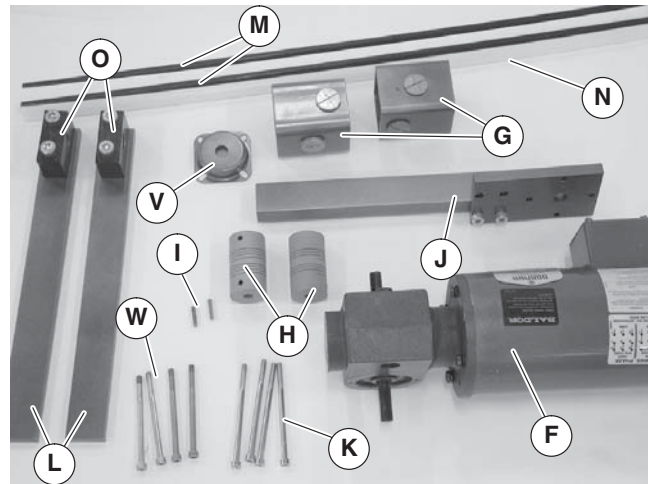
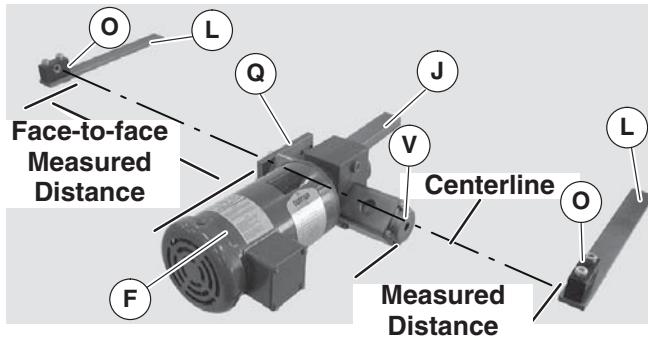

Figure 11
Figure 18
1. Gather components (Figure 11).
Mounting holes are not provided. Ensure that gearmotor assembly (Figure 18, item J) and bearing support assembly (L) are parallel and center-line of coupling matches center-line of bearing block (O).
- Attach gearmotor assembly (Figure 18, item J) and bearing support assemblies (L) to mounting surface.
- Measure distances between motor mounting plate (Q) and bearing block (O) and from shaft cover (V) to bearing block (O).
- Cut hex shafts (Figure 11, item M) to measured distances (Figure 18) plus 2-1/8" (54 mm) on both sides of gearmotor assembly.